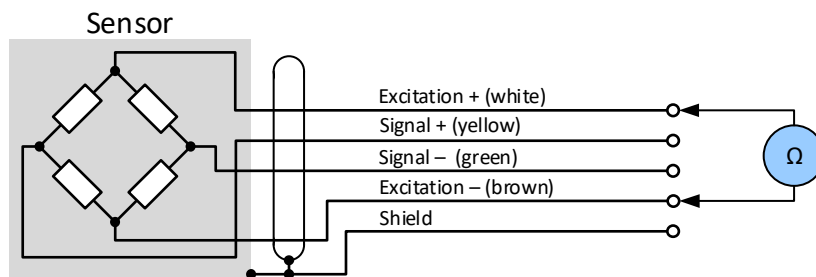

Fig. 10. Sensor resistance test
5. **Sensor resistance test**. If the sensor voltage excitation without sensor (test 3) is OK and the voltage with sensor is smaller, the sensor is probably damaged. Measure the resistant of the sensor according to figure 10. The right value is in the datasheet of the sensor, usually between 370 and 400 Ω .